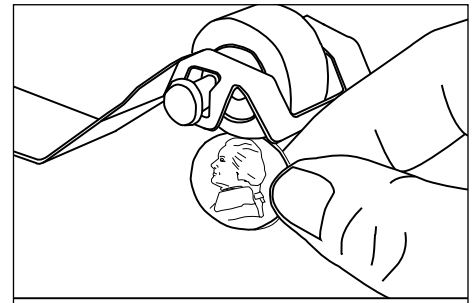

Figure 5. Measuring Roller Tensioner
1. Measure the Roller Tensioner on both inner Conveyor Covers (Figure 5) using a U.S. Nickel.